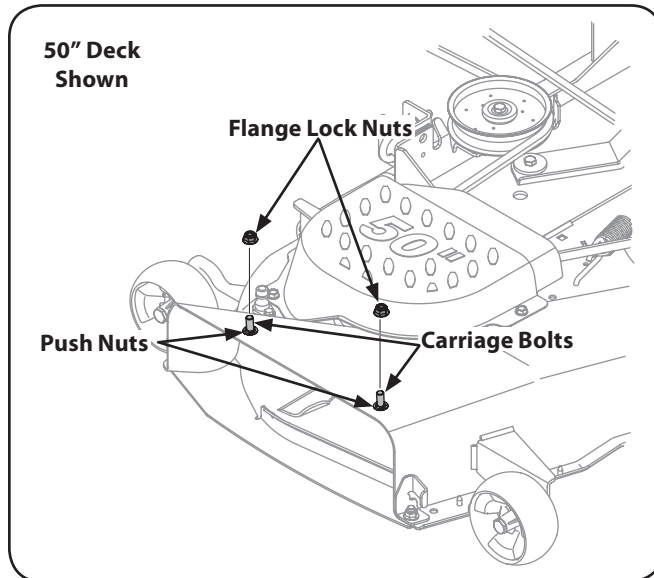

Figure 4-5
2. Remove the flange lock nuts from the deck. Do not remove the push nuts or carriage bolts, leaving them in place will aid in installing the chute. See Figure 4-5.